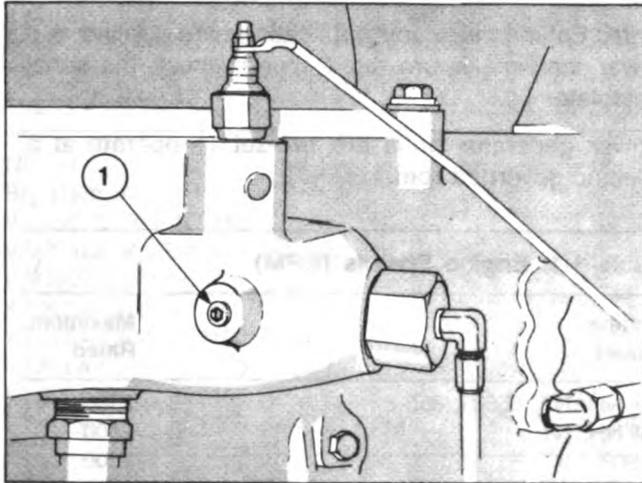

Fig. 1-10, (OM1006L). Glow plug inspection hole NT-855 C.I.D. Engine
6. If the engine gives no indication of starting during the first three full strokes of the preheater pump, touch-check the intake manifold for heat. If there is no heat, check the electrical wiring. If the wiring is all right, remove the 1/8 inch pipe plug (1, Fig. 1-10) from the manifold near the glow plug and